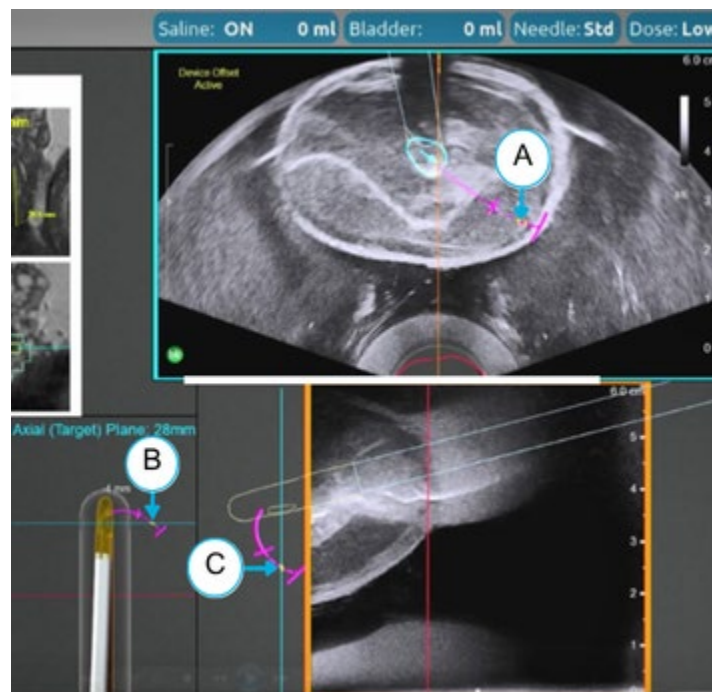

Figure 12-12: Projected Needle Path Crossing the Axial Plane
2. Move the Delivery Device to the treatment (Axial) plane previously established with positioning of the ultrasound probe. In the Axial (A), Top-Down (B), and Sagittal (C) views, the NGS projected Needle path will be seen crossing the blue Axial Plane (**Figure 12-12**).